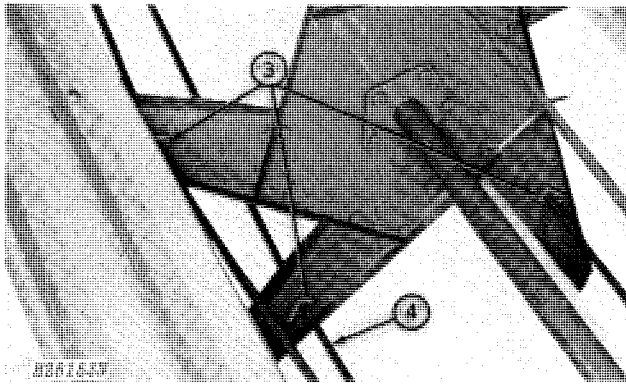

Fig. 57-Attaching Truss Rod Supports
3. (20-, 22-, and 24-ft. Reels). On 20-foot reels, attach five rod supports to the center set of reel arms. On 22- and 24-foot reels, attach ten rod supports to the two center sets of reel arms (Fig. 57). Use 5/16 x 5/8-inch cap screws to attach rod supports.